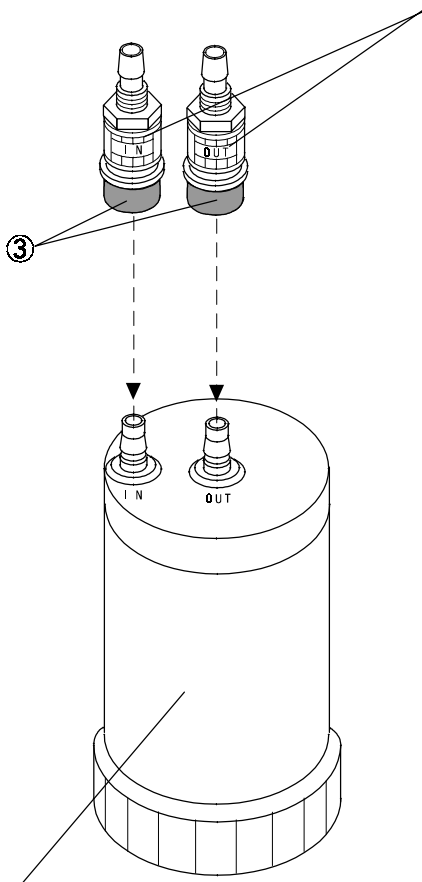

Fig.03
- (1) Make sure the earth leakage circuit breaker or the unit is switched off, and the tap is being fastened.
- (2) Use the pre-treatment cartridge out of accessories for the unit.
- (3) Take off the caps on the IN and OUT of the cartridge .
- (4) Open the unit front door. Then you can find one connecting hose with the IN coupler and other with the OUT. Connect the respective hoses to IN and OUT of the cartridge .
- (5) To connect each hose, slide the blue part of the coupler back to the hose side, and fit the end of the coupler to the respective end of the cartridge. Then release the blue part .(See Fig.03)